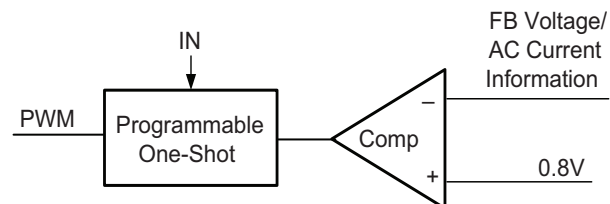

Figure 2. Simplified Control Schematic of AOZ2262AQI-18
The simplified control schematic is shown in Figure. 2. The high-side switch on-time is determined solely by a one-shot whose pulse width can be programmed by one external resistor and is inversely proportional to input voltage (IN). The one-shot is triggered when the internal 0.8V is higher than the combined information of FB voltage and the AC current information of inductor, which is processed and obtained through the sensed lower-side MOSFET current once it turns-on. The added AC current information can help the stability of constant-on time control even with pure ceramic output capacitors, which have very low ESR. The AC current information has no DC offset, which does not cause offset with output load change, which is fundamentally different from other  $V^2$  constant-on time control schemes.